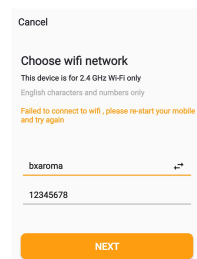

Figure 10
- (3). Select WiFi, input the password, and click Next (Figure 10).